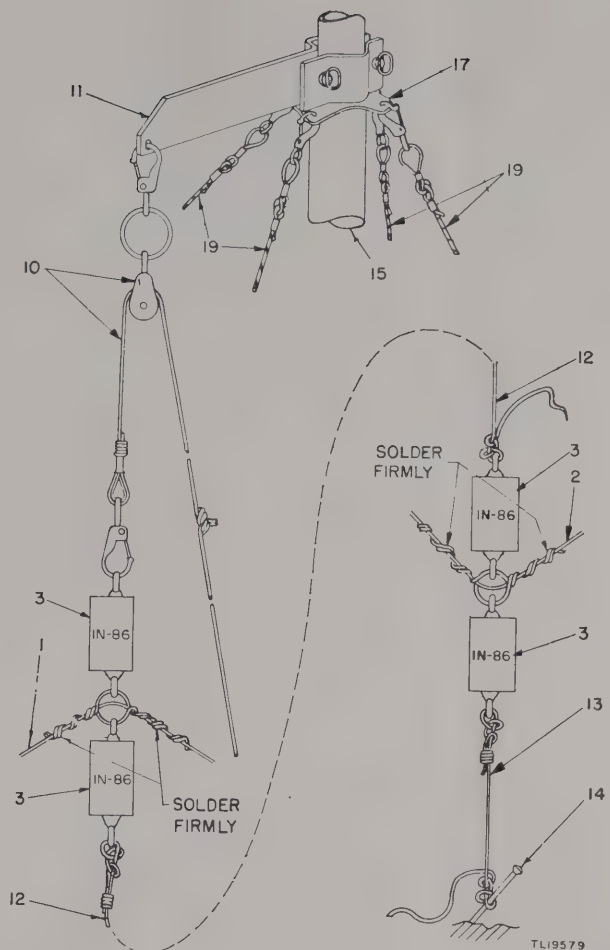

Figure 72. Method of supporting and anchoring vertical rhombic.
- (1) Attach the snap-hook ring and pulley assemblies of the left and center halyards (items Nos. 4, left, and 10, fig. 71) through the thimble (item No. 6, fig. 66) and the ring of the top insulator (items Nos. 10 and 3, fig. 72).
- (3) Drive a Stake GP-2 in the ground 6 inches away from the center mast base (item No. 34, fig. 71), and tie the bottom insulator assembly of the antenna to it with a 10-foot piece of Rope RP-3 (item No. 13, fig. 72). Allow 3 or 4 feet of rope between the antenna and the ground.
- (4) With the halyard of the rear mast
- (1) Adjust the central spacing rope (item No. 12, fig. 71) and the anchor rope (item No. 13, fig. 72) in such a way that when both are tight, dimension C (center, fig. 71, and dimension table) is correct for the frequency to be used. Measure C from the wire to the ground.
- (2) Readjust all halyards until the antenna is tight in all directions with its long axis (line X-X) parallel to the ground. It will not usually be possible to raise this axis more than 22½ feet from the ground with the center mast shown. If longer masts are available they should be used, keeping dimension B as shown, regardless of C.
c. Man No. 2 releases the anchor rope (item No. 13, fig. 72) and shortens or lengthens the central spacing rope (item No. 12, figs. 71 and 72) 1 foot, and then reties the knot to the insulator.
e. Man No. 2 takes the slack out of the lower wire (item No. 2, fig. 72) with the anchor rope.